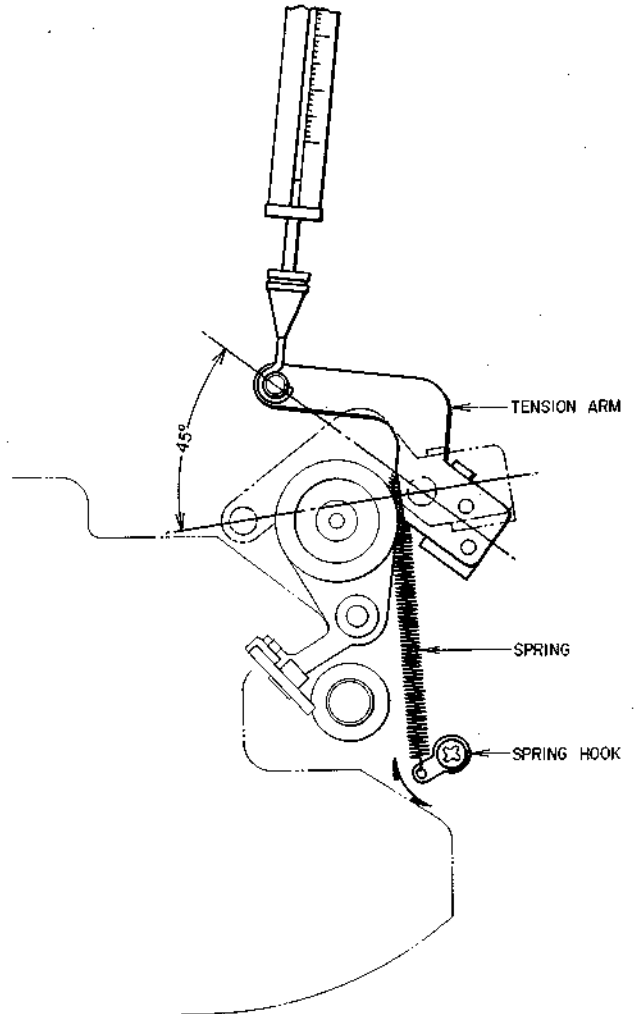

Fig. 9
- (a) As shown in Fig. 9, connect a 0 to 50 gr Spring Gauge to the Tension Arm. Measure Arm Tension at about a 45° upward position from stand-still position. Standard is 7 gr (± 2 gr).
- (b) If Tension Arm tension deviates from standard, adjust by turning (repositioning) Tension Arm Spring Hook (Fig. 9).